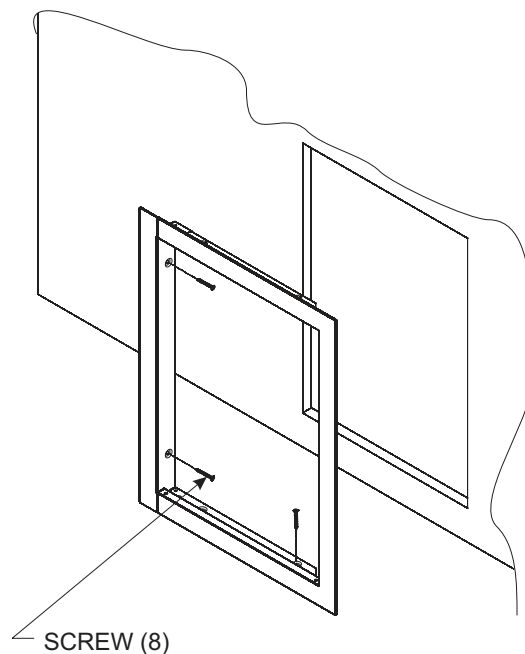

Figure 3
3. Place the Frame into the opening and check for proper hole alignment. Secure the Frame to the grill enclosure with eight 8 x 3/4 inch Hex Head Screw screws. See Figure 3.